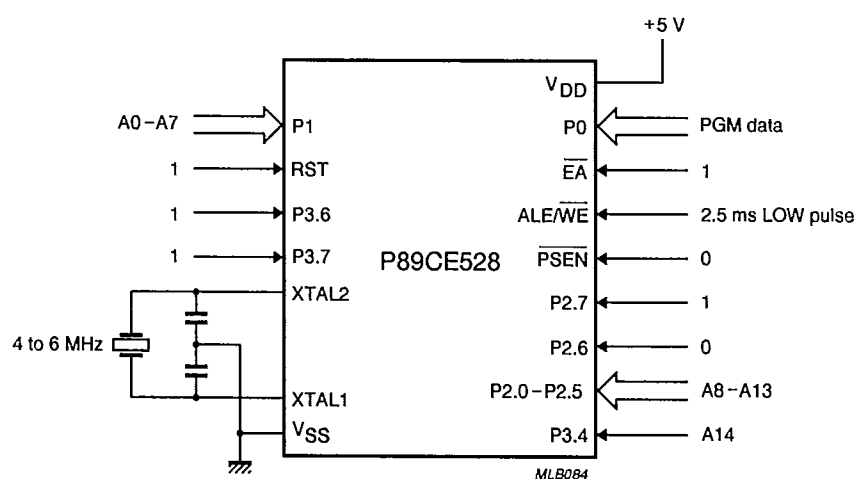

Fig.22 Programming configuration.
(2) For program conditions see Figure 22.